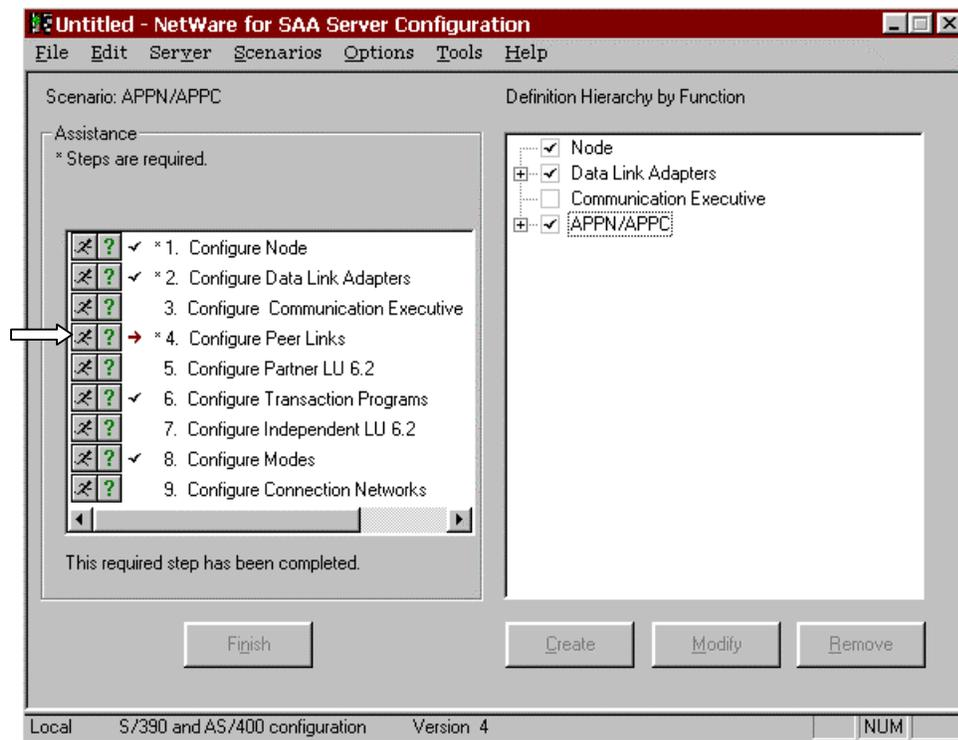
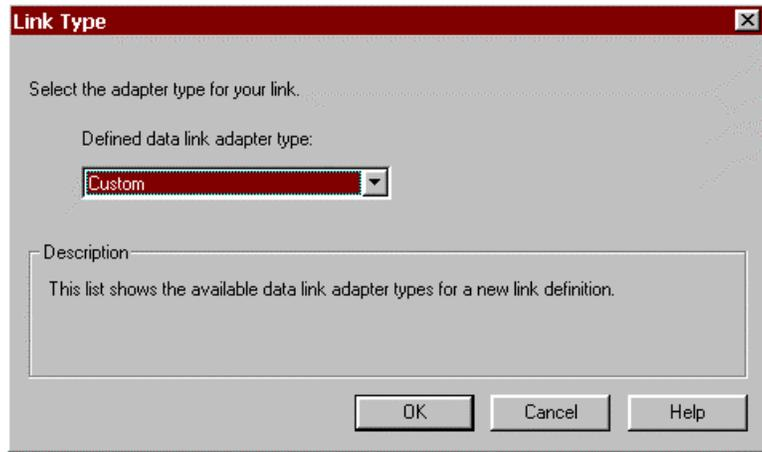

Figure 10-23. Configuring Peer Links
Figure 10-24. Specify Link Type for Peer Link
1. Click the "Running Man" next to **Configure Peer Links** (Figure 10-23). A Link Type dialog will display (Figure 10-24). Select **Custom** and click **OK**.